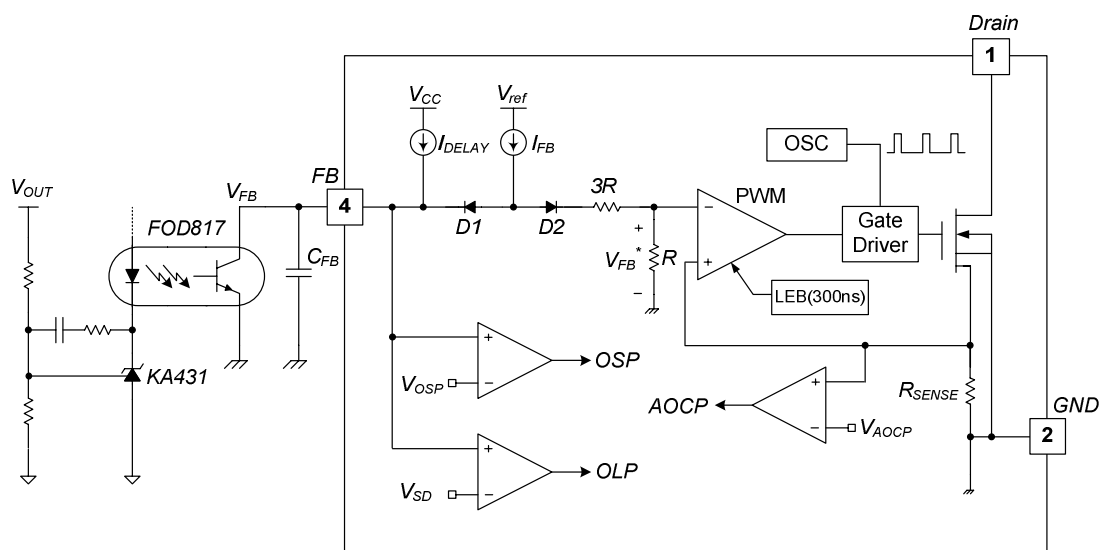

Figure 18. Pulse Width Modulation Circuit
3. Feedback Control: This device employs current-mode control, as shown in Figure 18. An opto-coupler (such as the FOD817) and shunt regulator (such as the KA431) are typically used to implement the feedback network. Comparing the feedback voltage with the voltage across the R_{SENSE} resistor makes it possible to control the switching duty cycle. When the reference pin voltage of the shunt regulator exceeds the internal reference voltage of 2.5V, the opto-coupler LED current increases, pulling down the feedback voltage and reducing the drain current. This typically occurs when the input voltage increases or the output load decreases.
3.1 Pulse-by-Pulse Current Limit: Because current-mode control is employed, the peak current through the SenseFET is limited by the inverting input of PWM comparator (V_{FB}^*), as shown in Figure 18. Assuming that the $210\mu\text{A}$ current source flows only through the internal resistor ($3R + R = 11.6k\Omega$), the cathode voltage of diode D2 is about 2.4V. Since D1 is blocked when the feedback voltage (V_{FB}) exceeds 2.4V, the maximum voltage of the cathode of D2 is clamped at this voltage. Therefore, the peak value of the current through the SenseFET is limited.